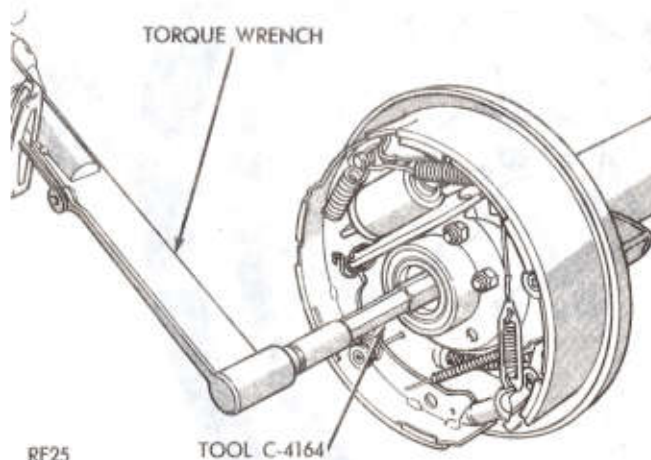

Fig. 13—Tool C-4164 Positioned to Loosen or Tighten Hex Adjuster
(13) Insert Tool C-4164 through axle tube on each side and loosen hex adjuster (Fig. 13).